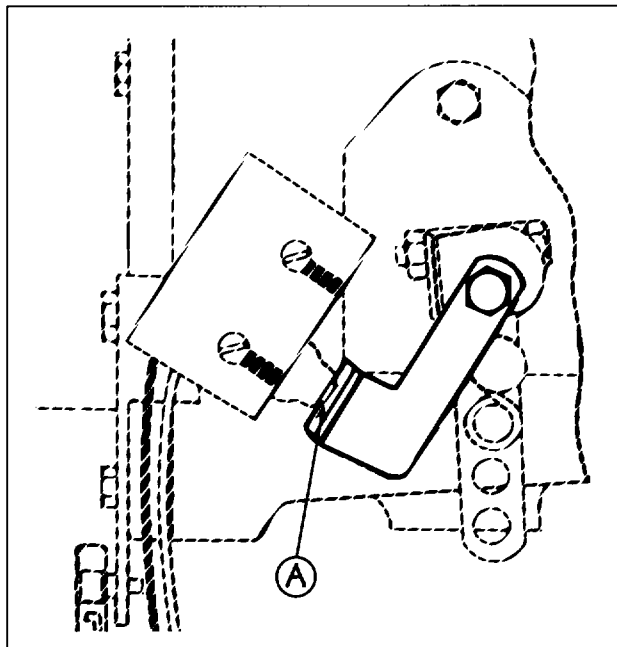

FIG. 43
6. Move the throttle to the low idle position and insert a 0.050" (1.27 mm) feeler gage between the switch plunger and actuating lever (A, Fig. 43). Push the switch lever against the switch plunger until the plunger bottoms. Tighten the cap screw to 7 lb.-ft. (10 N•m).